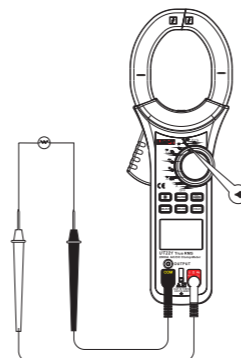

Figure 7
5. Continuity test (•) (See Figure 7)